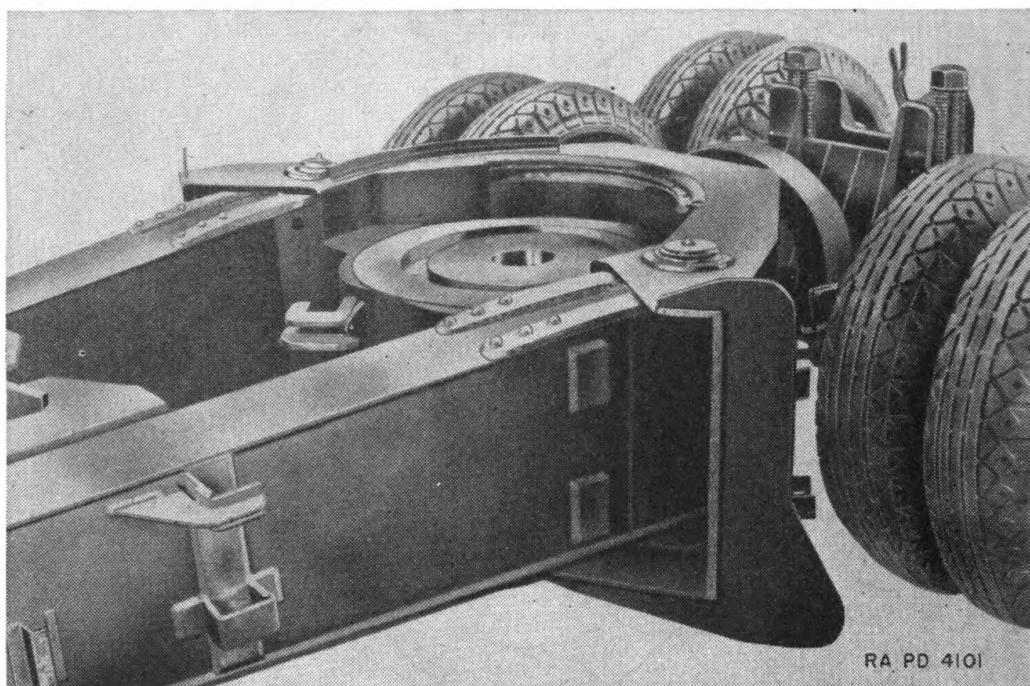

FIGURE 16.—Bottom carriage pintle.
**10. Assembling of carriage.**—*a. Trails to bottom carriage.*—Assemble the trails to the bottom carriage by means of the trail pins (C73103) (figs. 16 and 17). Locate the trail pins on the pins (BFDX2CC) on the top and secure the assembly by the threaded plugs (B105026) on the bottom. Lock the plugs by means of screw (BCKX2CK) and see that the oil wells in the trail pins are fitted with clean waste saturated with lubricant.